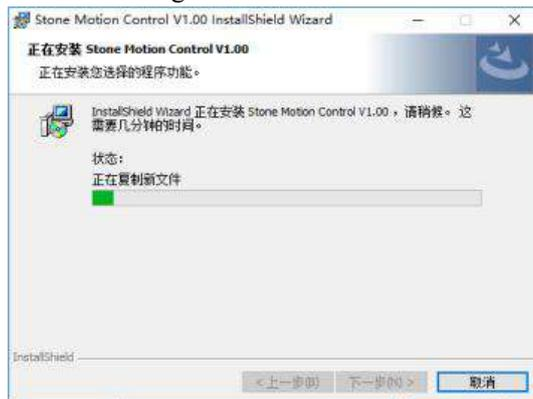

Figure 6-5 Installing
6. Click "**Next**", and click "**Finish**" after the setup is finished to exit the setup interface and complete the setup, as shown in Figure 6-5.